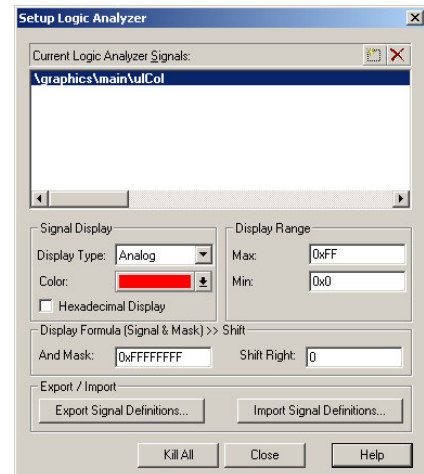

Figure 9 LA Configuration
4. Click on Setup... the Setup Logic Analyzer window in Figure 9 opens up.
7. If you get an error – this means variable ulCol is out of scope. Either close this window, run the program to bring it into scope and try to reenter ulCol or enter the fully qualified variable as shown in Figure 9. \graphics\main\ulCol